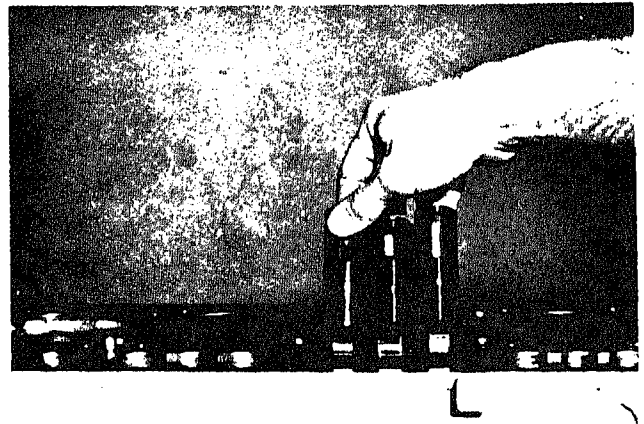

Fig. 14-1-33. Installing tappets
1. Install tappets in block; injector tappets are slightly larger than valve tappets and are installed between each pair of valve tappets, Fig. 14-1-33.